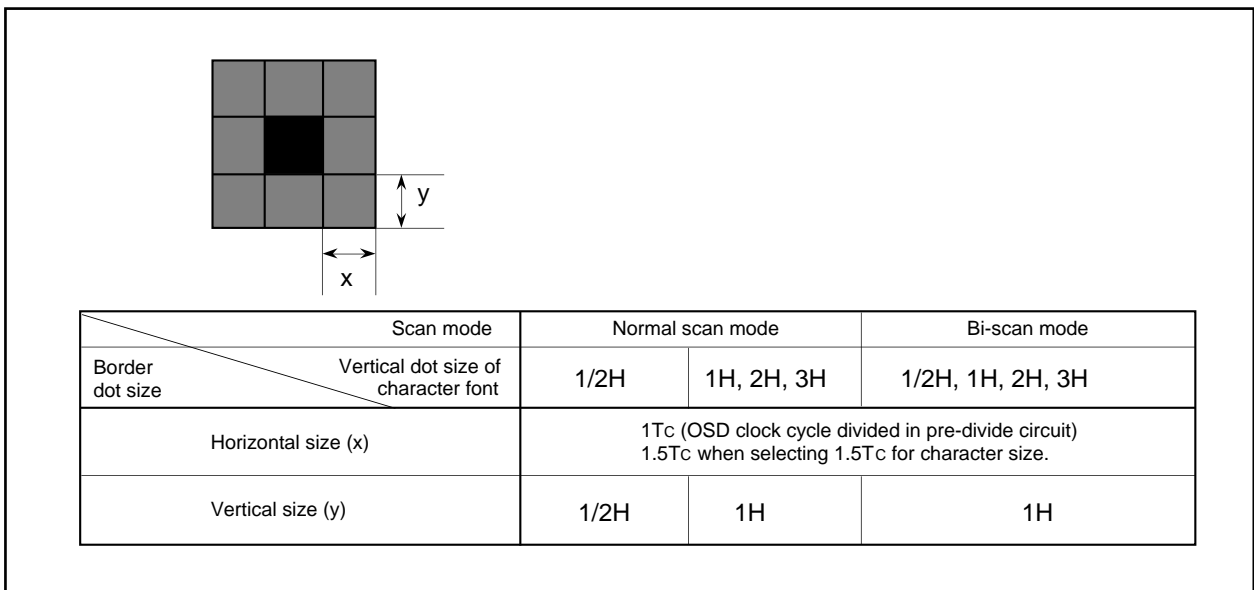

Fig. 79. Horizontal and Vertical Size of Border
**2 :** The border dot area is the shaded area as shown in Figure 79. In the EXOSD mode, top and bottom of character font display area is not bordered.